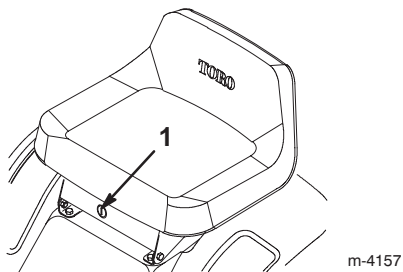

Figure 10
If you need to use the blades (PTO) while backing up, you can turn off this interlock feature using the KeyChoice switch located near the seat bracket (Fig. 10).
2. Insert the KeyChoice key into the switch (Fig. 10).